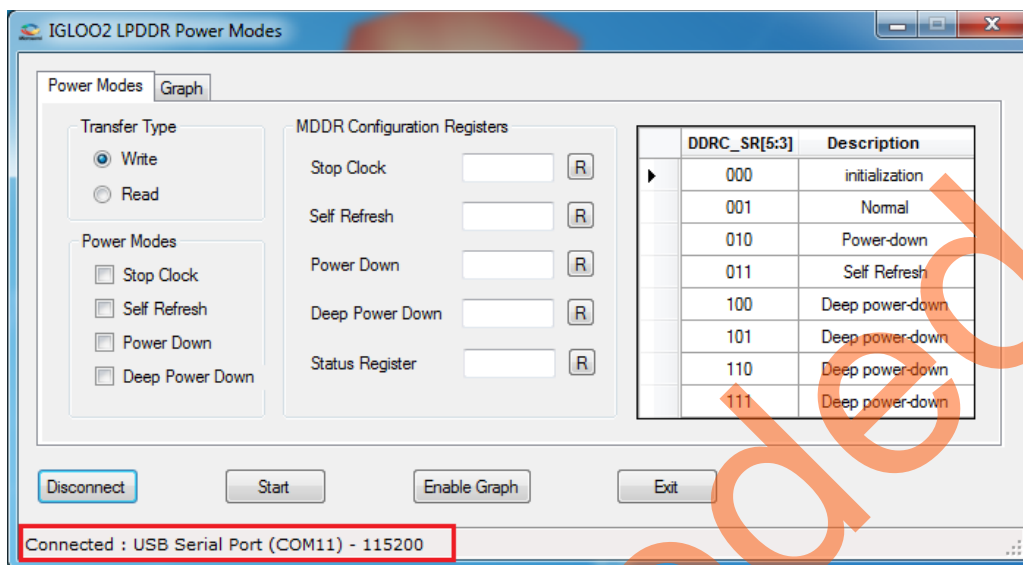

Figure 17 • IGLOO2 LPDDR Power Modes Connection Status
- Click **Connect** and wait until it connects to the FDTI COM port. The connection status along with the COM port and baud rate is displayed in the left bottom corner of the window. Figure 17 shows the connection status and baud rate.